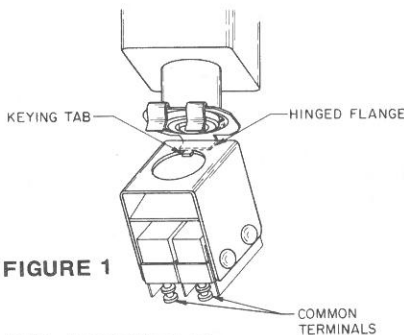

FIGURE 1
1. Tab on switch bracket must be lined up with slot in bushing. (Figure 1)